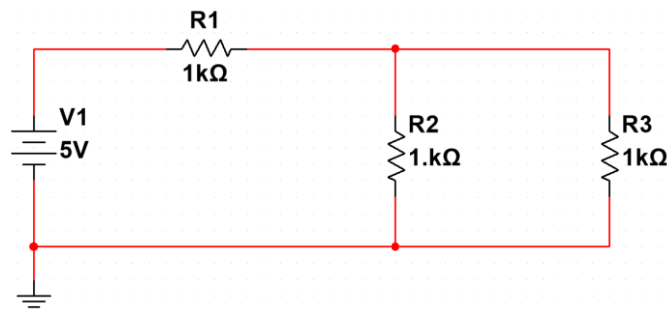

Figure 3. The resistor circuit.
2. Repeat the step above to make all the connections, including connection to **GROUND** as in Figure 3.